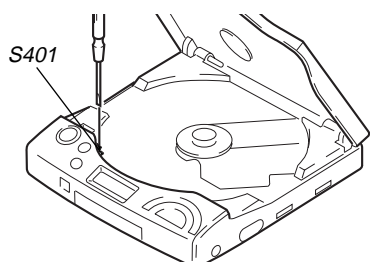

Fig. 1 Method to push the S401
2. Push the S401 as shown in Fig. 1.